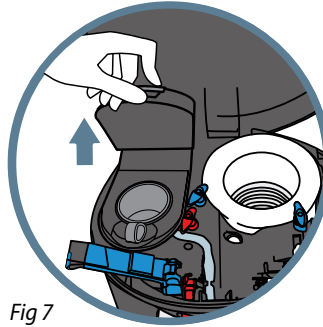

Fig 7
8. With the dispenser top still open, open the K-Cup® pod assembly lid (Fig. 7).